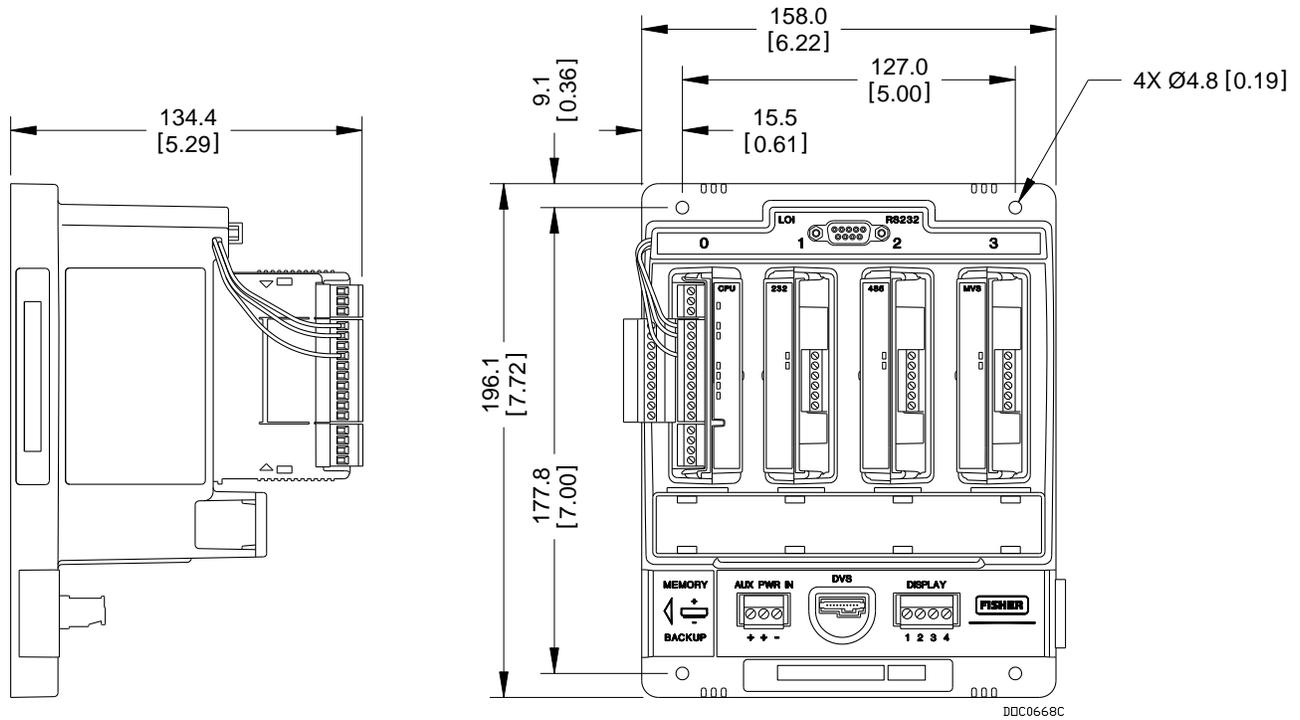

Figure 2-1. Side and Front View of FloBoss 107 Base Unit
- Consider the physical dimensions of the FB107 (see *Figures 2-1* and *2-2*):